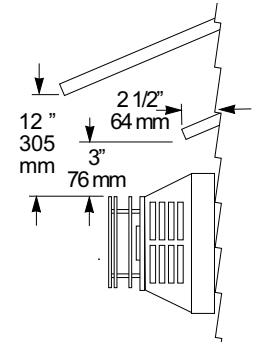

Figure 21.
- The horizontal termination cap must maintain a 3" clearance to any overhead combustible projections 2 1/2" or less. It must also maintain 12" clearance from projections exceeding 2 1/2". See fig. 21.